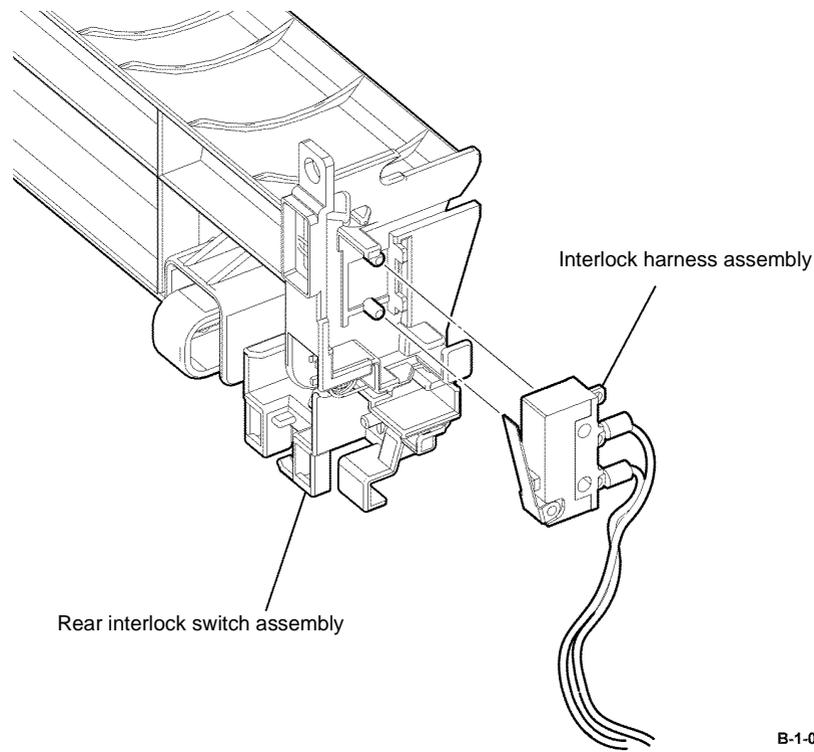

Figure 4 Interlock harness assembly removal
18. Remove the interlock harness assembly from the rear interlock switch assembly, Figure 4.